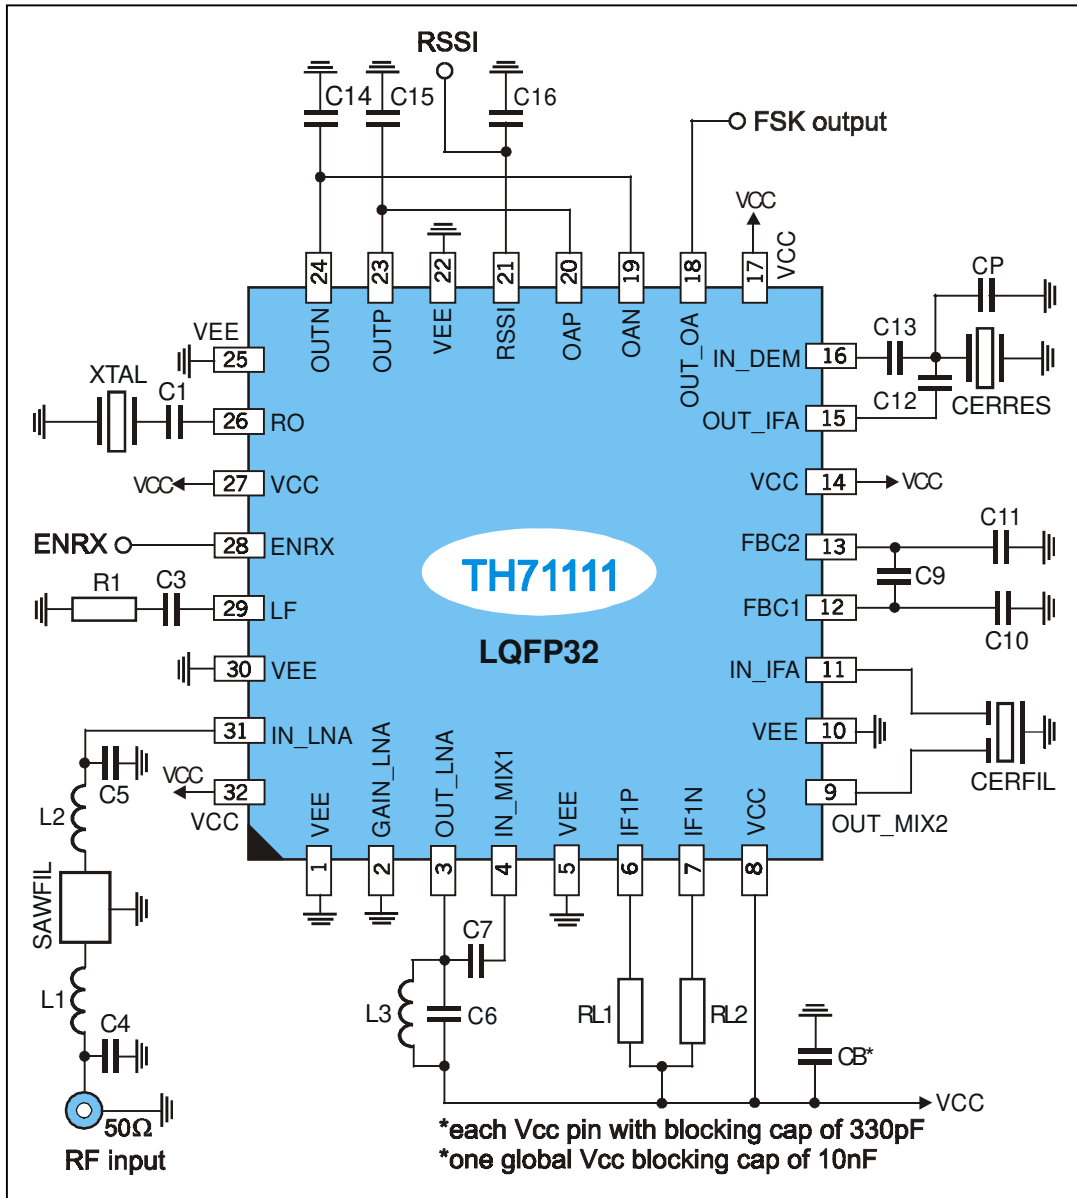
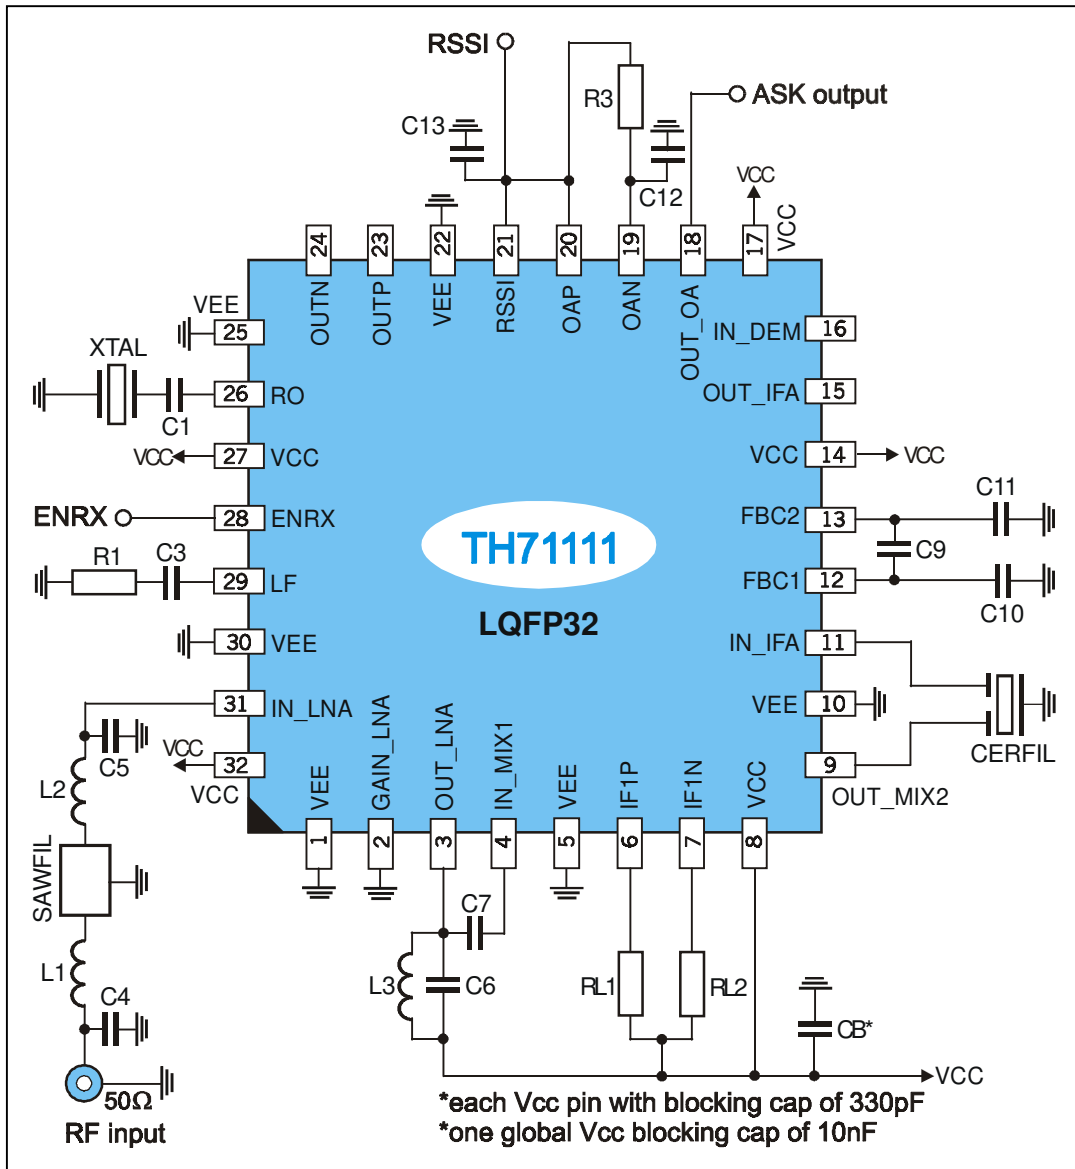

Fig. 2: Test circuit for FSK reception
Fig. 4: Test circuit for ASK reception
all parameters based on test circuits for FSK (Fig. 2) and ASK (Fig. 4), respectively;
4.2 FSK test circuit component list (Fig. 2)
4.6 ASK Test Circuit Component List (Fig. 4)